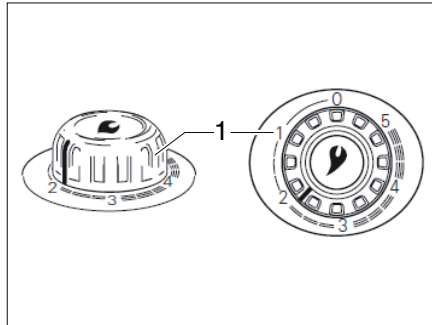

Fig. 105 Hot-air heater control knob
- Turn the control knob on the heater (Fig. 105,1) to the required position and press down to its stop limit.
- Turn the control knob at the heater (Fig. 105,1) to "0". The automatic ignition is switched off simultaneously.
- ▷ Further information can be obtained from the separate instruction manual "Truma S 3004 (P) / S 5004".